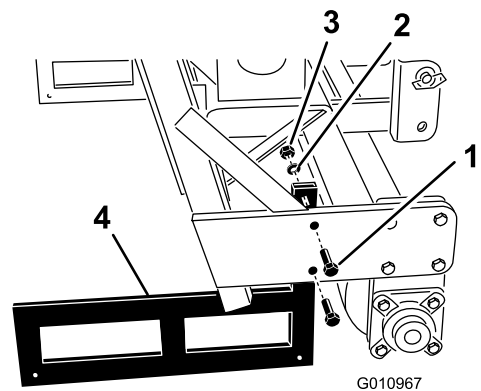

Figure 26
2. Remove the bolts and nuts securing the storage stands to each end of the aerator (Figure 26).